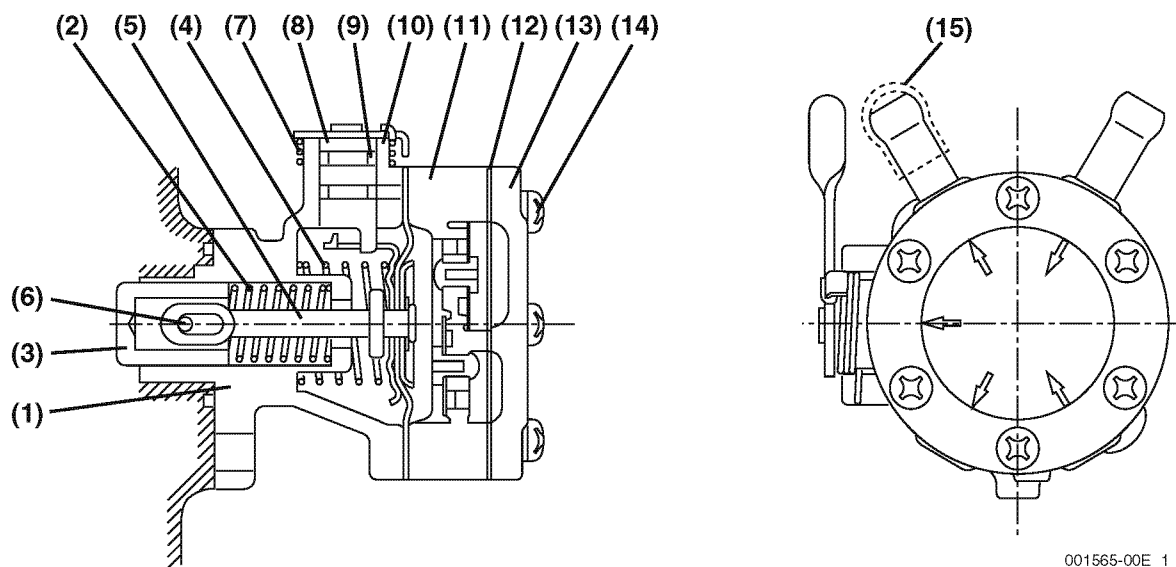

Figure 6-9
3. Check the orientation of the arrow on the cover (**Figure 6-9, (13)**).
4. Make index marks on the upper body (**Figure 6-9, (11)**) and cover.
5. Remove the cover screws (**Figure 6-9, (14)**).
6. Disassemble the cover, upper body and lower body (**Figure 6-9, (1)**).